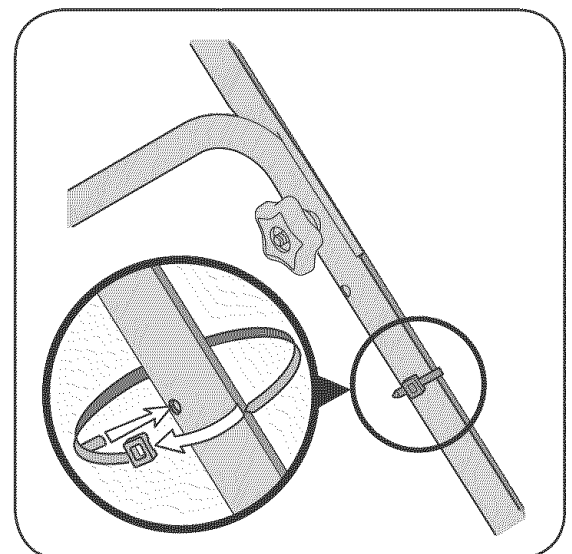

Figure 3-4: Secure cables to handle using cable ties.
4. Insert post on cable ties into holes provided on the lower handle. Pull cable ties tight and trim excess, Figure 3-4.